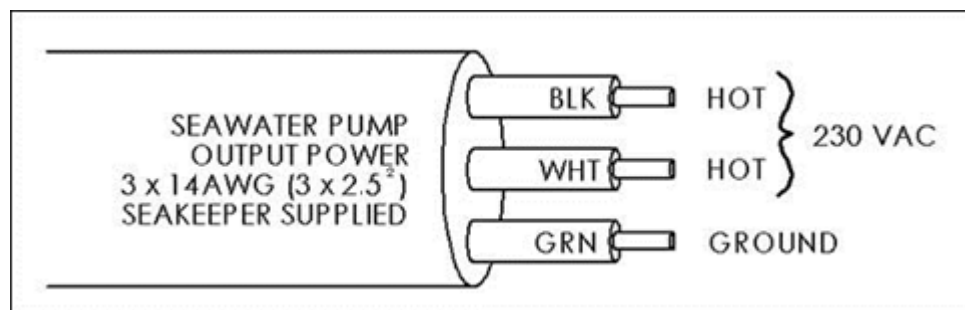
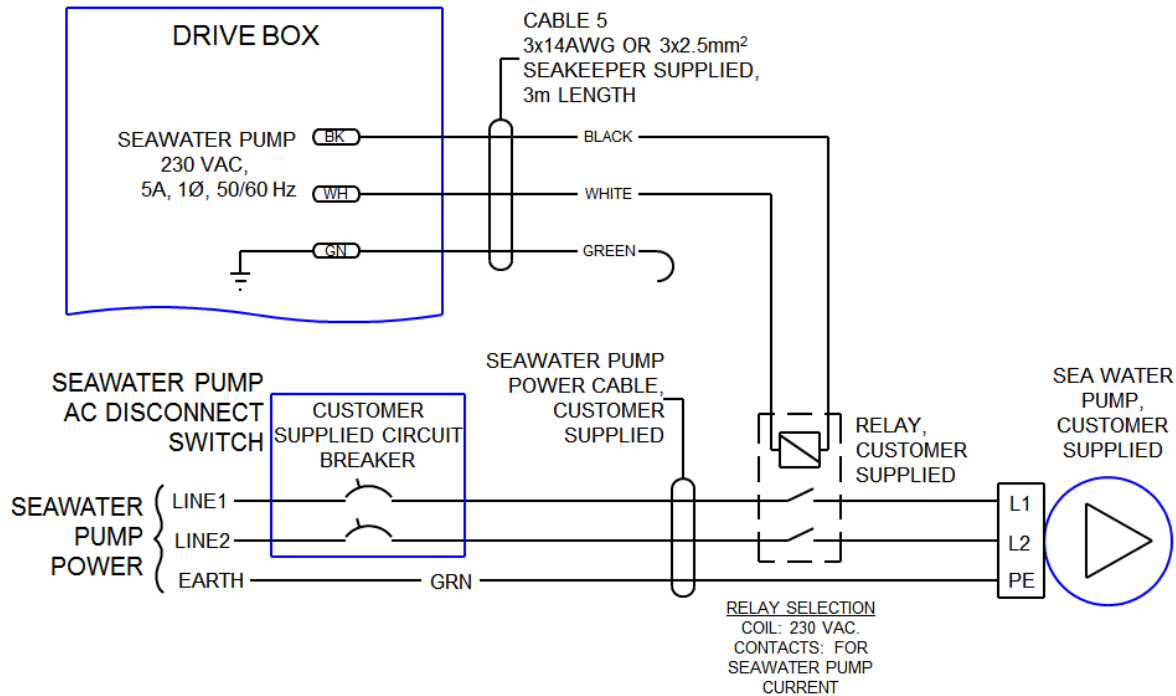

FIGURE 4 – CABLE 5, AC OUTPUT POWER CABLE
FIGURE 6 – RECOMMENDED WIRING FOR SEAWATER PUMPS NOT 230 VAC
- ii. Connect the 230 VAC wires in CABLE 5 to a 5 Amp maximum, Seawater Pump (approximately 1/3 horsepower or 250 W) according to Figures 4 and 5.
- ii. The recommended wiring is shown in Figure 6. Refer to Figure 4 for Cable 5 wire connections.